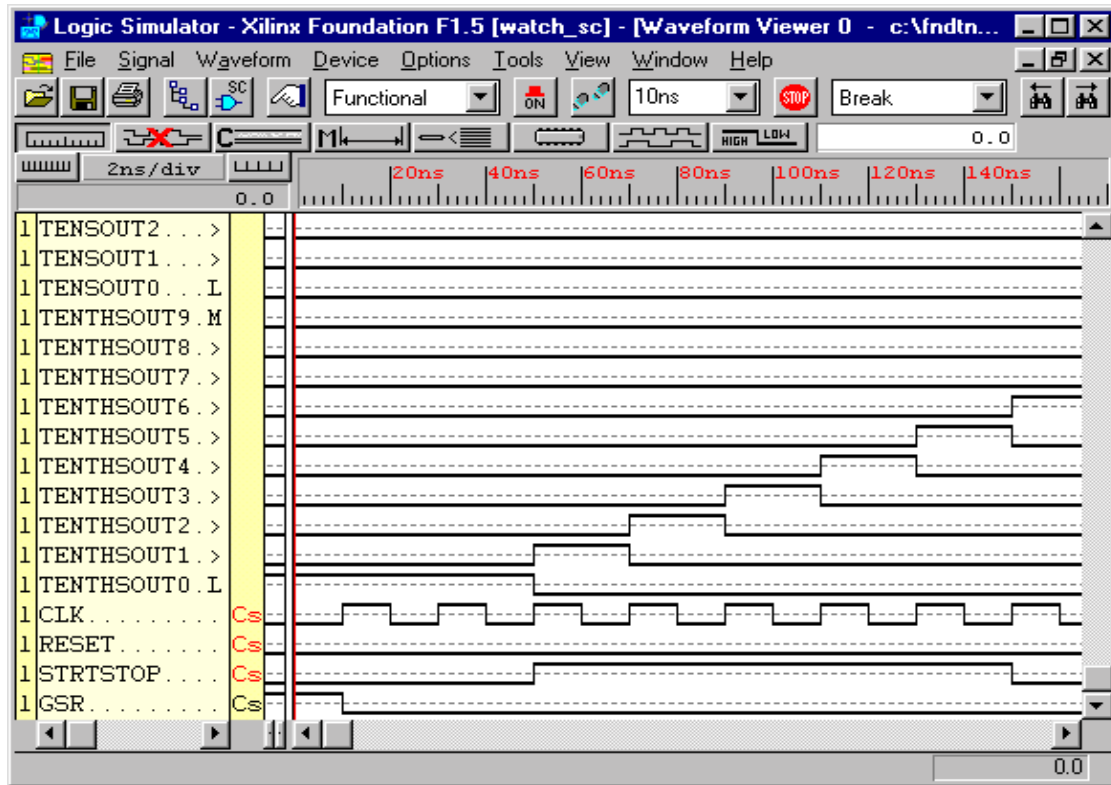

Figure 4. The Waveform Viewer with the signals placed in a new order.
- 3) The simulator has been initialized when the “**Waveform Viewer**” and the “**Simulator**” box have opened. The waveform viewer should now contain all the signals that have a probe attached to them. To move signals and busses in the waveform viewer, select-and-drag the signal to a different row in the viewer. Place all of the designs inputs at the top and the output busses at the bottom of the viewer as in Figure 4.